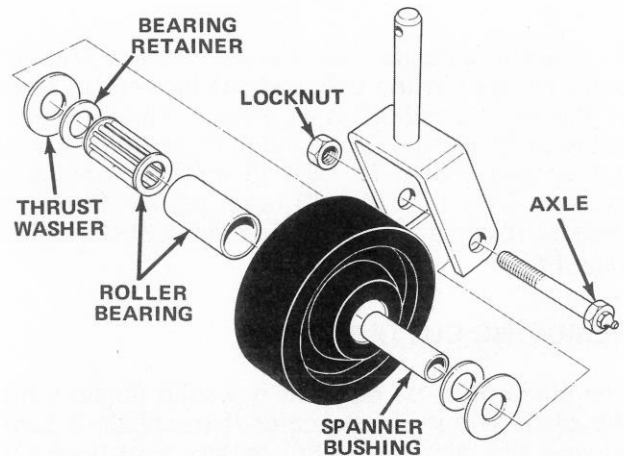

Figure 25
1. Remove locknut from axle holding castor wheel assembly between castor fork (Fig. 25). Grasp castor wheel and slide axle out of fork.
Note: Account for the two bearing retainers and thrust washers (Fig. 25).
2. Tip wheel to the side and allow roller bearing and spanner bushing to fall out (Fig. 25).
6. Pump more grease through grease fitting on axle (Fig. 25) until bearing is greased thoroughly.